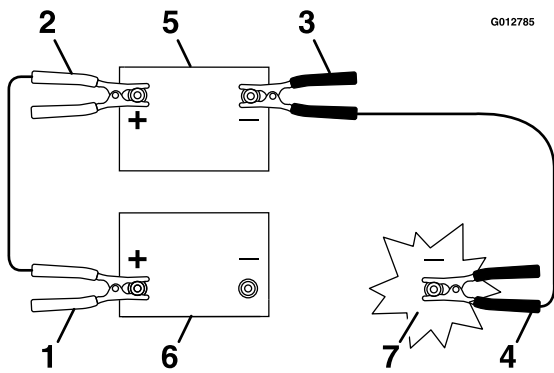

Figure 59
3. Connect the positive (+) cable to the positive (+) terminal of the discharged battery that is wired to the starter or solenoid as shown in Figure 59.